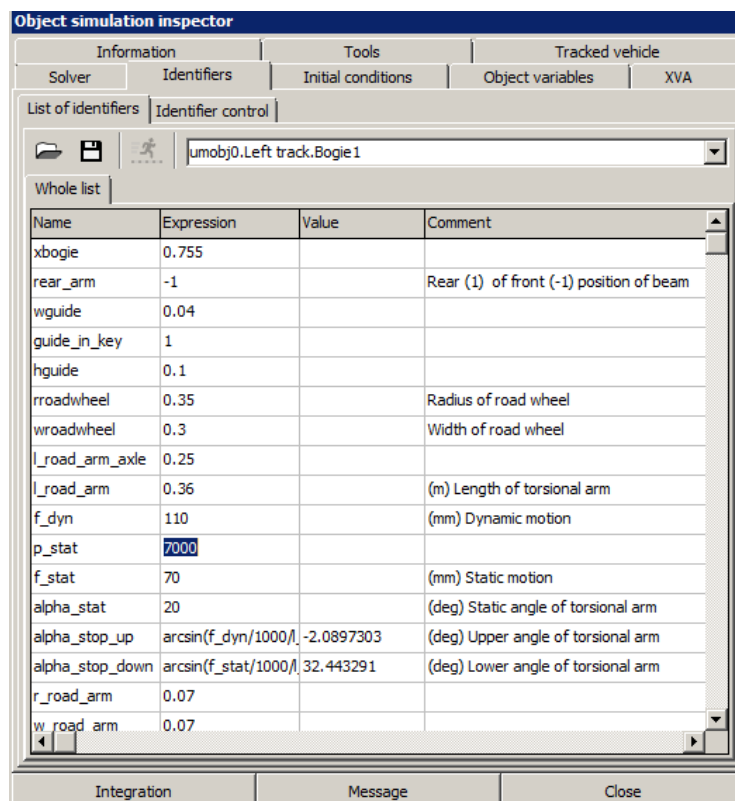
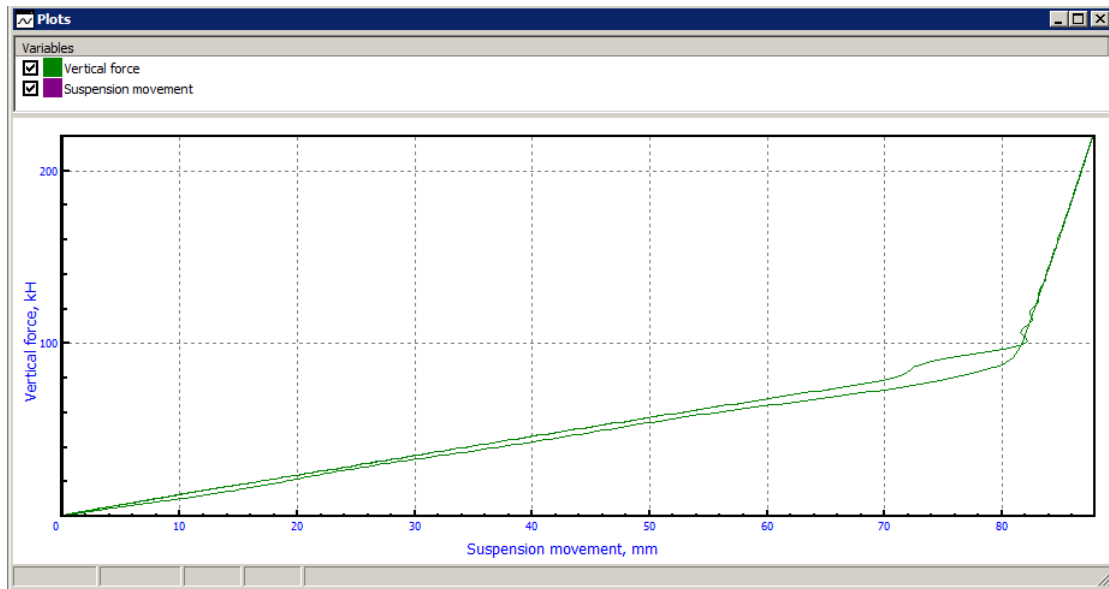

Figure 2.3. Modification of parameters
Figure 2.16. Test result: Load vs. vertical movement
load on a road wheel, which is specified by the identifier  $p\_stat$ . Value of this parameter depends on the track tension. Let the design value of this parameter be 7 kN. Setting this value to the identifier can be done on the **Identifier** tab of the inspector. Note that the  $p\_stat$  identifier is defined in suspension subsystems. Open the list of identifiers for one of the suspension subsystem by the drop-down list, Figure 2.3.
- Run the test. The results are shown in Figure 2.16. Increase of the suspension stiffness corresponds to the vertical movement exceeding the road wheel dynamic travel 110 mm parameterized by the identifier  $f_{dyn}$ , Figure 2.3.